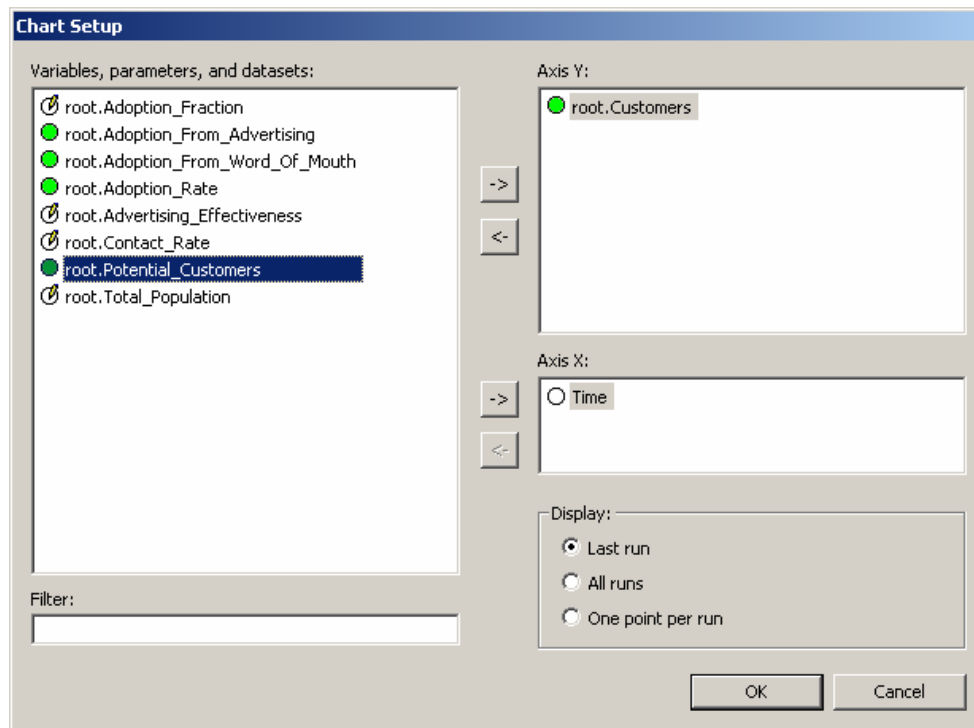

Figure 141. Chart Setup dialog box
1. Right-click the chart window and choose *Chart Setup...* from the popup menu. The *Chart Setup* dialog box is displayed (see Figure 141).